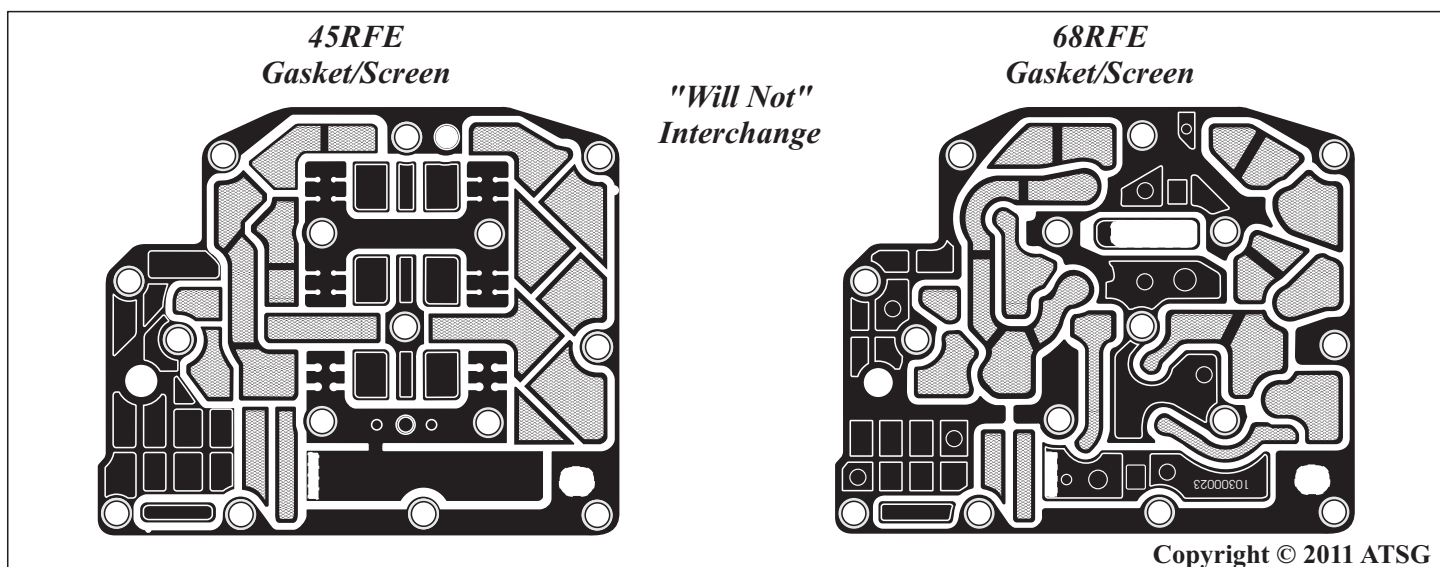

Figure 133
**Note:** The Gasket/Screen assembly is different between the 45RFE and 68RFE and "will not" interchange, as shown in Figure 133.